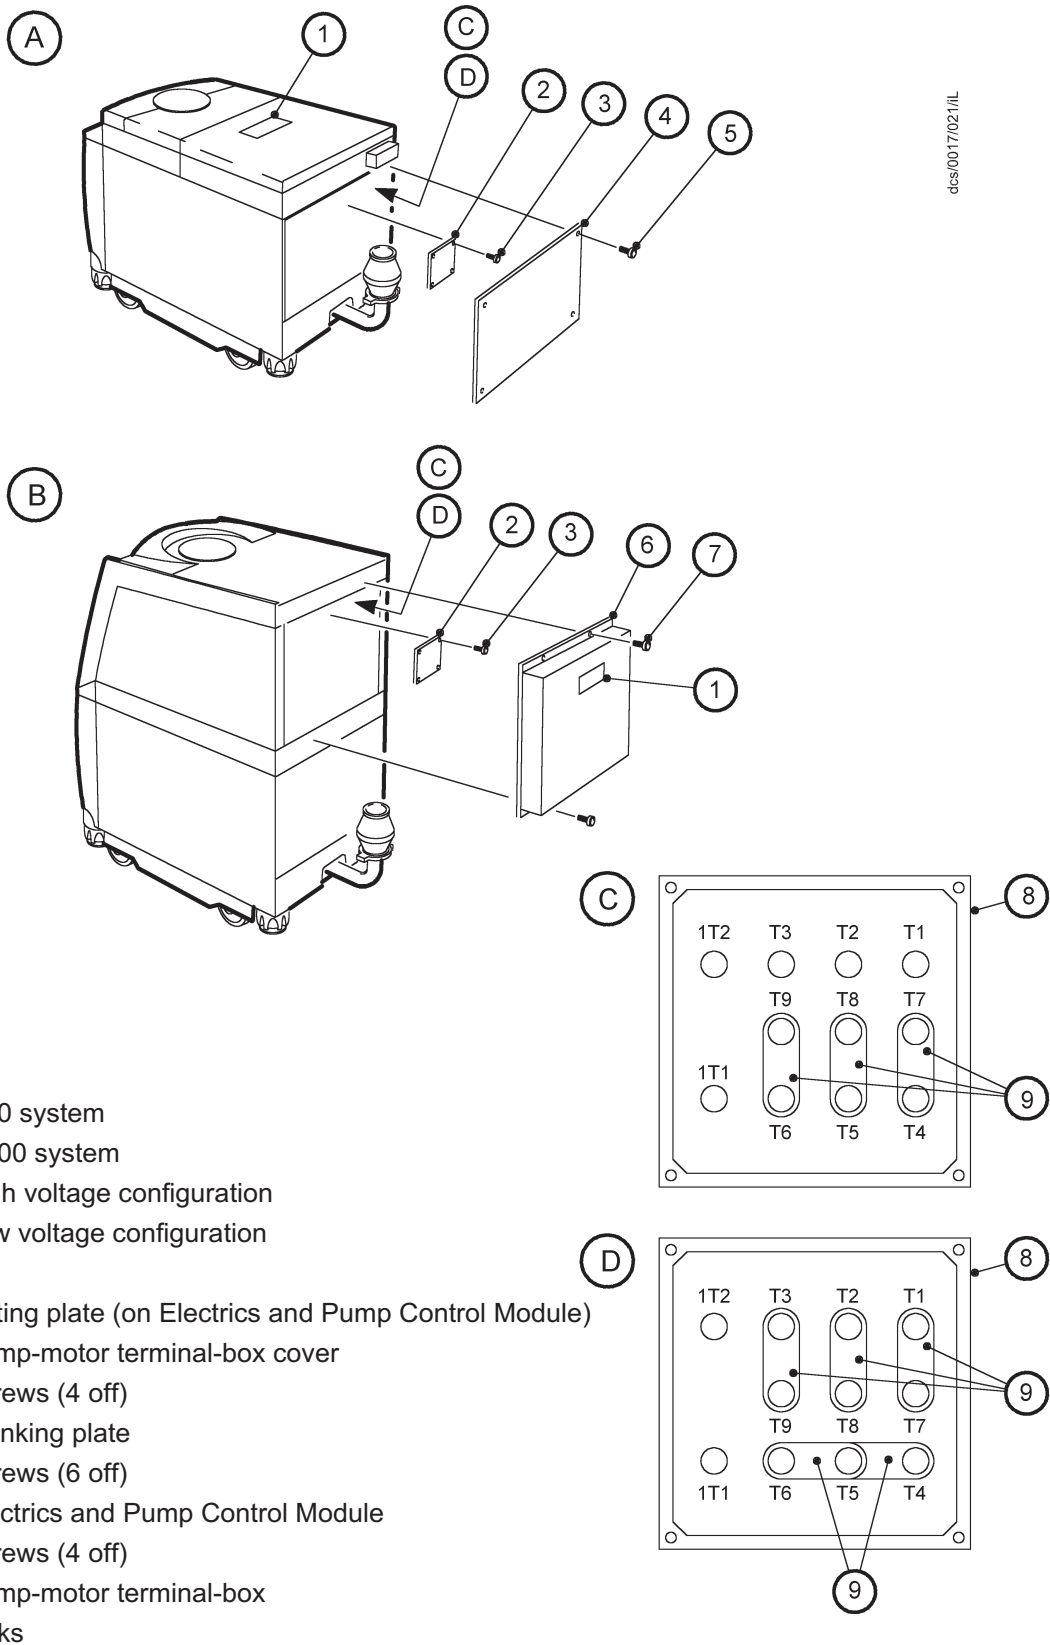

Figure 3-9 - Reconfigure the pump-motor terminal-box (if necessary)
Your iL system will be supplied correctly configured for your electrical supply; the Item Number of the iL system (shown on the rating plate: Figure 3-9, item 1) specifies how the system is configured: refer to Section 2.11.
1. Refer to Figure 3-9 detail A. Undo and remove the six screws (5) which secure the blanking plate (4) over the LCDP pump-motor, and remove the blanking plate.
2. Undo and remove the four screws (3) which secure the cover (2) to the LCDP pump-motor terminal-box.
3. Look at the links in the terminal-box (8):
- For high voltage operation (380-415 V at 50 Hz or 460 V at 60 Hz), ensure that the links (9) are in the positions shown in detail C.
- For low voltage operation (200-208 V at 50 Hz or 200-230 V at 60 Hz), ensure that the links (9) are in the positions shown in detail D.
4. Refer to detail A. Refit the cover (2) to the LCDP pump-motor terminal-box and secure with the four screws (3).
5. Refit the blanking plate (4) and secure with the six screws (5).
6. Remove the rating label (1) from the Electrics Module. (This label now shows the incorrect electrical supply information for the reconfigured pump.)
8. Refer to detail B. Undo and remove the four screws (7) which secure the Electrics and Pump